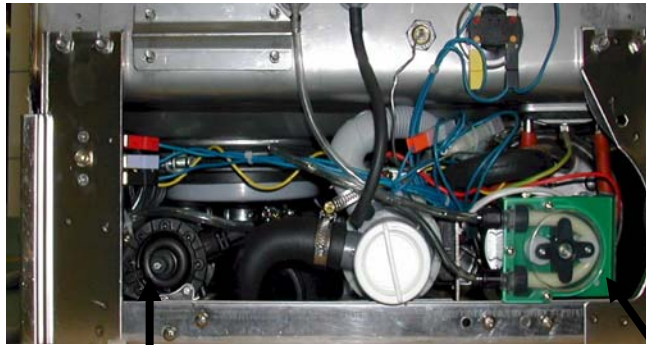
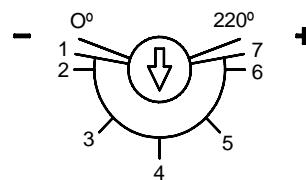

Fig. 12
Fig. 12a
- Switch selector switch (1) back to the OFF position.
- If desired you can control the amount of Chemical being dispensed by opening the bottom front panel of the machine. Locate the detergent dispenser (Fig. 12) and regulate according to flow chart (Fig. 12a). For the Rinse, turn the button counterclockwise to get more rinse aide and clockwise for less. You prime the line by depressing the button.